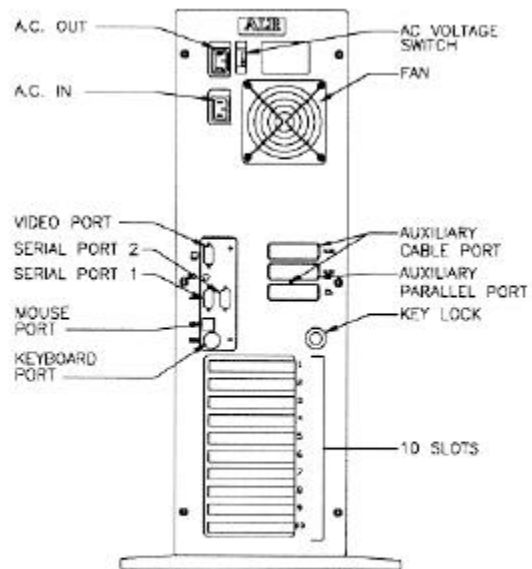

Figure 2-1: Rear of the Flyer 32LCT
Figure 2-1 shows the rear of the Flyer 32LCT chassis and identifies the various I/O connectors. Optional equipment connections include the parallel, mouse, and two serial ports, as well as the ten internal expansion slots.
**CAUTION:** Make sure the AC voltage switch located on the rear of the Flyer 32LCT is set to the correct voltage. For example, in the United States, set the switch for 115 volts. Refer to Figure 2-1 for the location of the AC voltage switch.